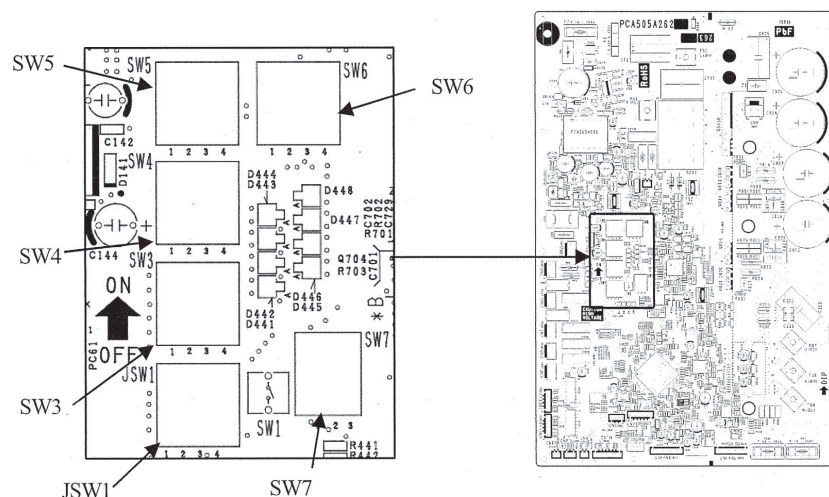

Fig.4 Switch position of main PCB
- Match the setting of new main PCB switches (JSW1, SW3-7) with former main PCB. (Refer to Fig.4)